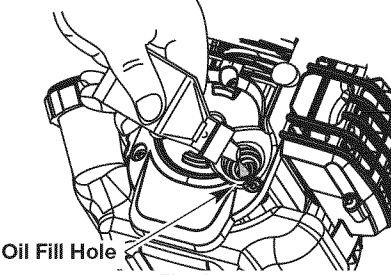

Fig. 3
4. Pour the entire bottle of oil into the oil fill hole (Fig. 3).